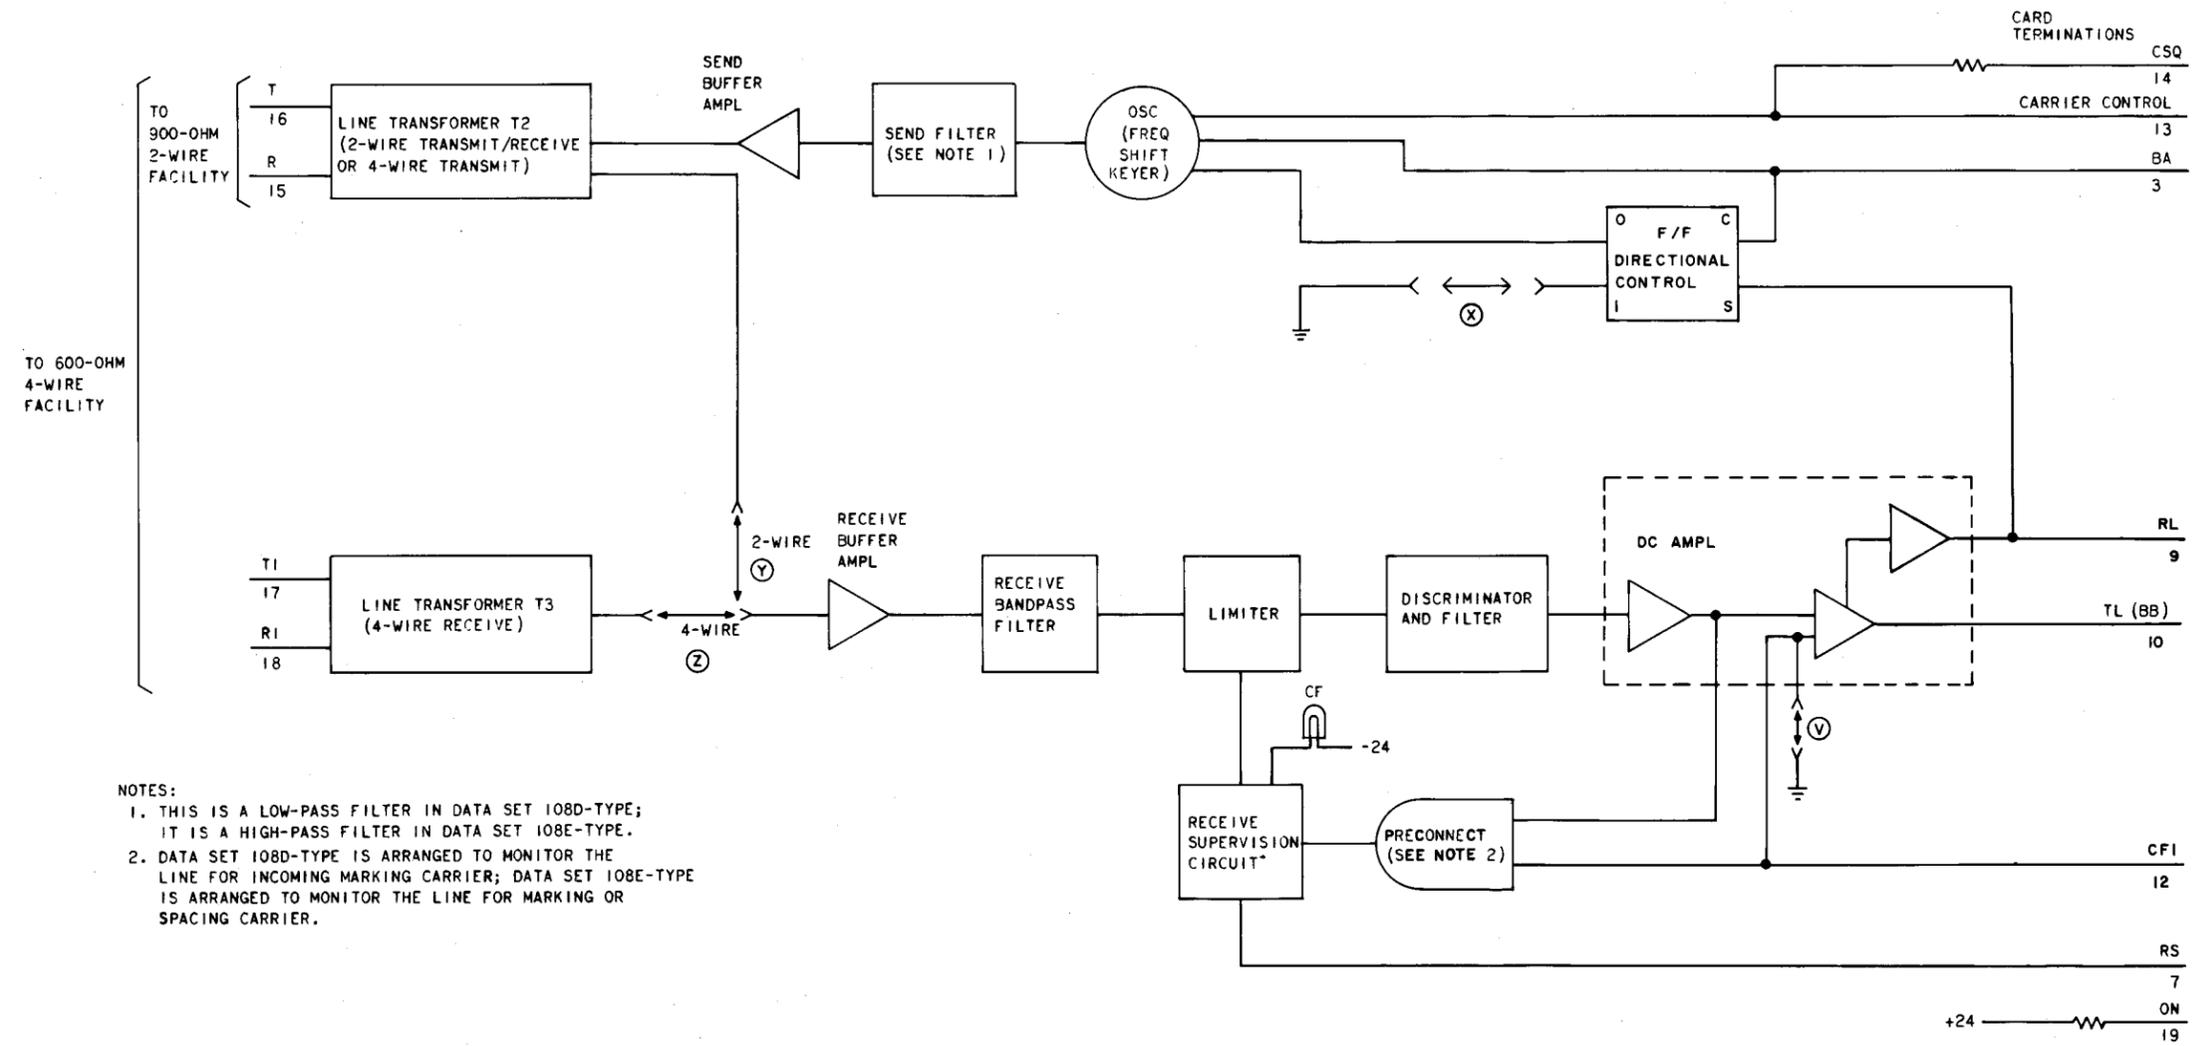

Fig. 6—Block Diagram of Data Sets 108D- and 108E-Type
3. FUNCTIONAL DESCRIPTION (Fig. 6)